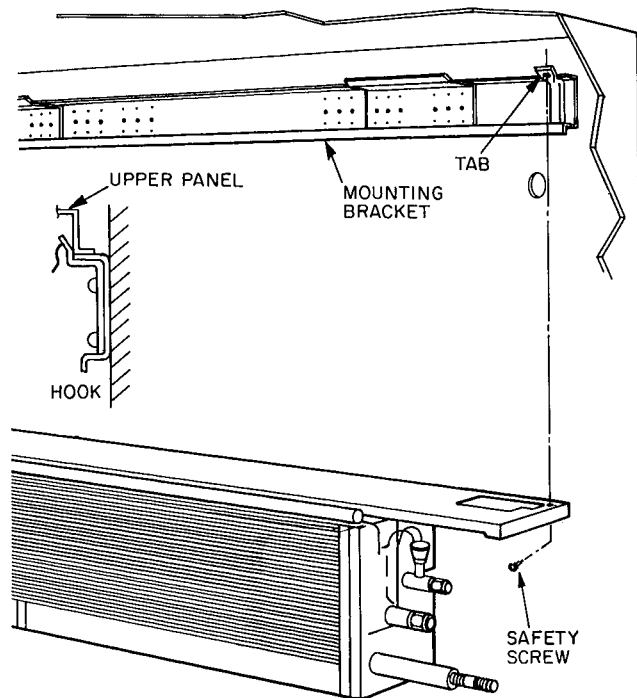

Fig. 7 — Align Unit on Bracket
- b. To align unit on the mounting bracket, move unit side to side until the hole on top flange matches up with tab on mounting bracket (Fig. 7).